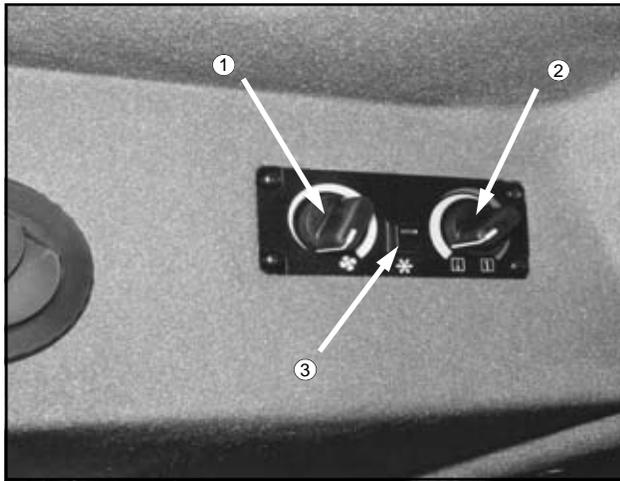

FIG 5.83
ADJUSTING FAN BLOWER SPEED- Fan blower speed is controlled by the left rotary dial on the cab climate control panel (fig. 5.83, item 1). The fan blower speed is a continuously variable adjustment. To increase fan speed, rotate fan blower dial clockwise. To reduce fan speed, rotate fan blower dial counterclockwise. To shut fan blower off, rotate fan blower dial all the way counterclockwise.
ADJUSTING TEMPERATURE SETTING - Forced air temperature adjustments are controlled by the right rotary dial on the cab climate control panel (fig. 5.83, item 2). Temperature control is a continuously variable adjustment. To increase forced air temperature, rotate temperature dial clockwise. To decrease forced air temperature, rotate temperature dial counterclockwise.
OPERATING AIR CONDITIONING - To activate the air conditioner, depress the air conditioning switch (fig. 5.83, item 3). Adjust fan speed and temperature accordingly.